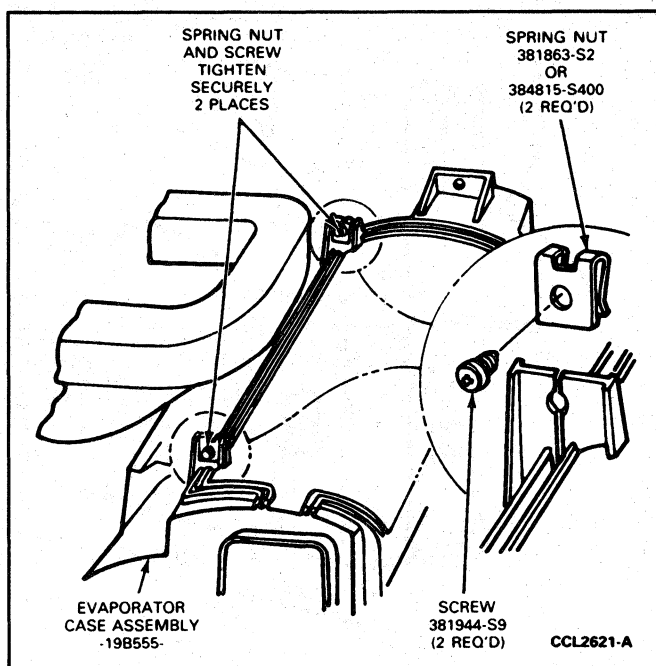

FIG. 40 Cutout Cover Secured in Closed Position
3. Install a spring nut on each of two upright tabs with two holes drilled in front flange. Ensure hole in spring nut is aligned with 4.75mm (3/16-inch) holes drilled in tab and flange. Install and tighten screw in each spring nut (through hole in tab or flange) to secure cutout cover in closed position (Fig. 40).
- Lower A/C plenum chamber by loosening two screws attaching it to instrument panel (Fig. 40).